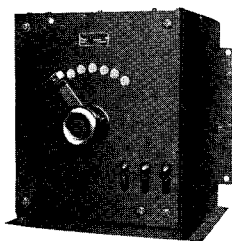

Fig. 2—Ballast Rheostat
15. **Ballast Rheostats**—Install the ballast rheostats either in or near the operating booth. Each ballast rheostat should be mounted so as to allow a free circulation of air vertically between the grids (Fig. 2).